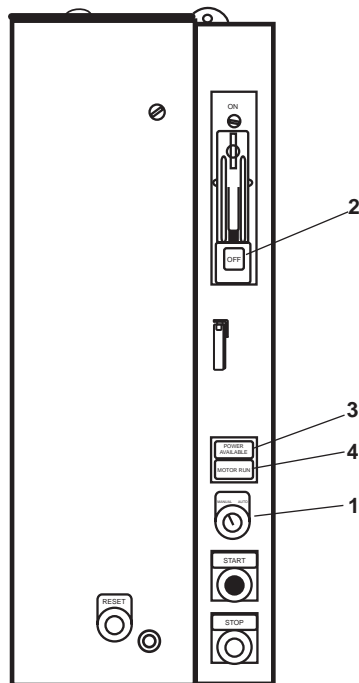

Figure 5. Air Compressor Motor Controller
10. Set both of the motor controllers' MANUAL-AUTO switches (figure 5, item 1) to AUTO.
11. Set both motor controllers' ON-OFF switches (figure 5, item 2) to ON.
12. Ensure that the POWER AVAILABLE light (figure 5, item 3) is illuminated on both motor controllers.
13. Ensure that the MOTOR RUN light (figure 5, item 4) is illuminated on both motor controllers.